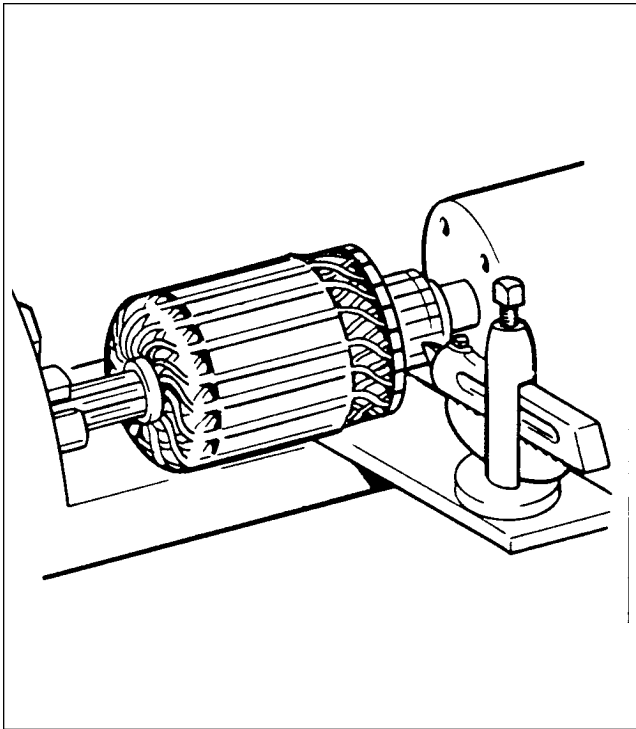

Figure 80-2. Turning Starting Motor Commutator
1. Check commutator for uneven wear, excessive glazing, or evidence of excessive arcing. If only slightly dirty, glazed, or discolored, the commutator can be cleaned with 00 or 000 sandpaper. If commutator is rough or worn, it should be turned in a lathe. (Refer to figure 80-2.) Inspect armature shaft for rough bearing surfaces and rough or damaged splines.